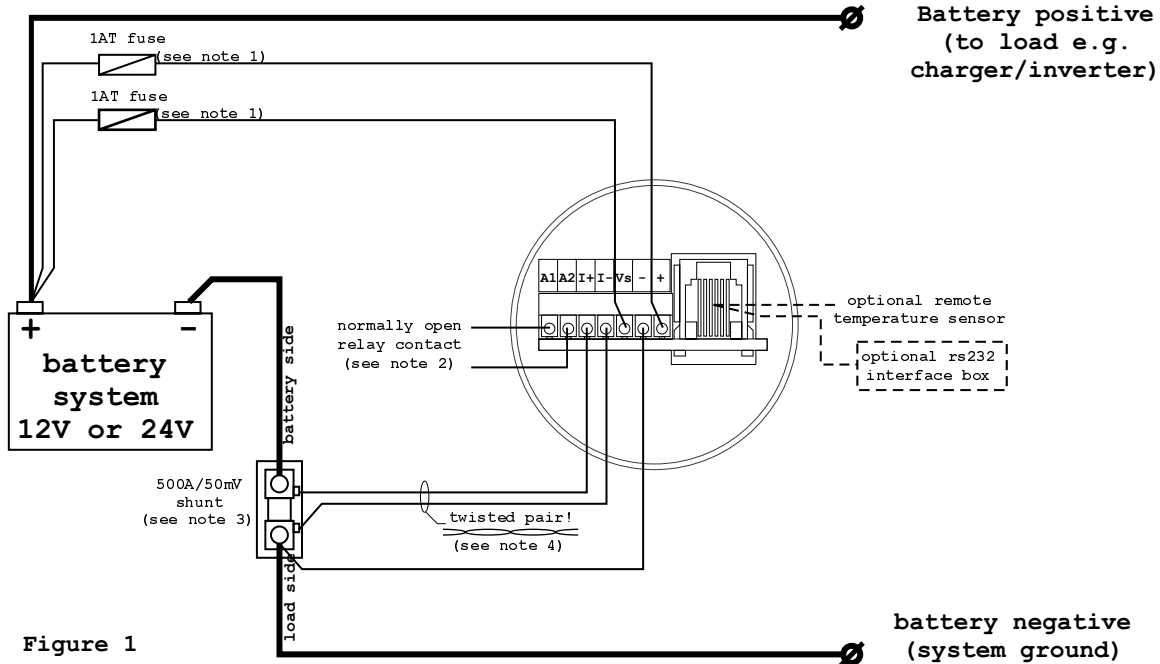

Figure 1
- 3.) **Please read chapter 2.1, "precautions when working with batteries", of the user manual first.** First the connections on the battery system side are made. **Make absolutely sure that the two 1 Amp fuses are removed from the inline fuseholders before connecting the wires to the battery.** Please follow the wiring diagram (figure 1) and the corresponding notes very strictly. Wrong connection may cause battery monitor malfunctioning and/or fire hazards. The thick lines in the wiring diagram represent the main current path cables. These cables must be of a heavy duty type and able to carry full load current drawn from the battery. The five wires going to the battery monitor unit can be connected to shunt and battery using universal crimp terminals.